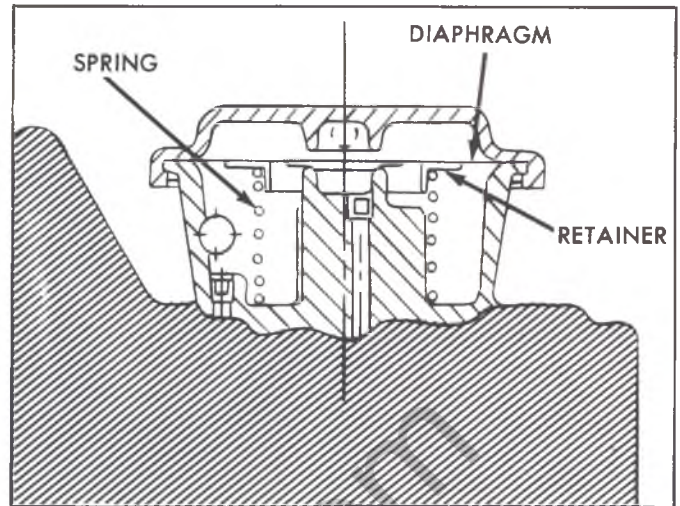

Fig. 14—Purge Valve
**CANISTER PURGE VALVE (Fig. 14)****Disassembly**